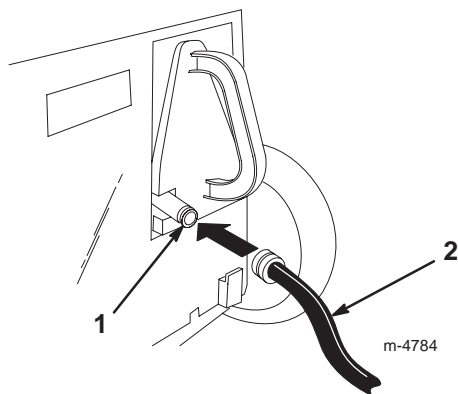

Figure 20
3. Lift the rear door and attach the coupling to the lawn mower washout fitting on the recycling plug (Fig. 20).